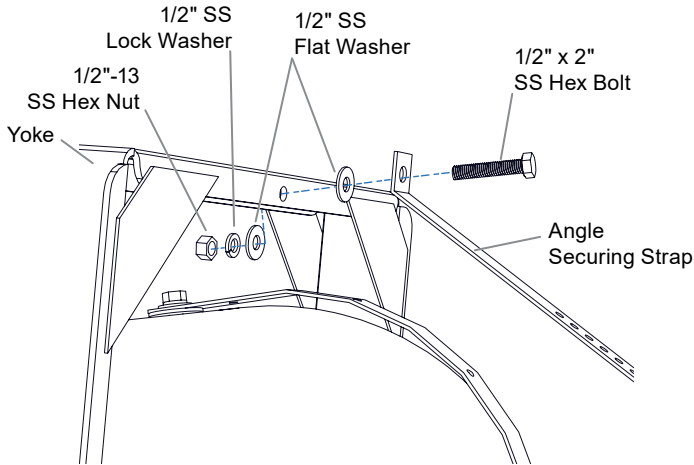

Figure 3a. Attach the securing strap to the yoke
- Attach the securing strap to the yoke. Align the short bent end with the 9/16" hole with the yoke, and attach as shown in Figure 3a. The securing strap should be positioned on the yoke crossbar with the long end positioned over the contour strap.